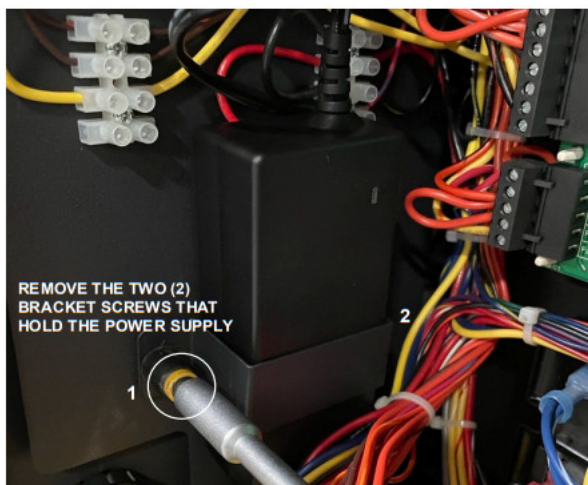

Figure 3. Power Supply Removal
5. Using a 5/16" nut driver, remove the two (2) mounting bracket screws that hold the existing power supply to the unit. (See Figure 3.)
13. Install the new Power Supply and secure in place with the mounting bracket. (See Figure 3.) Do not tighten the left-side mounting screw completely as mentioned in Step 7.